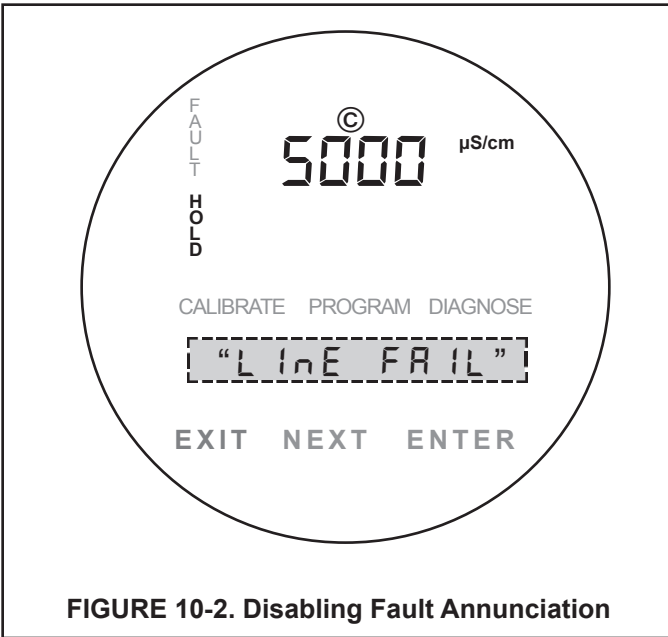

FIGURE 10-2. Disabling Fault Annunciation
3. The appropriate fault message alternates with the normal Temperature/Current output display (see Figure 10-2).